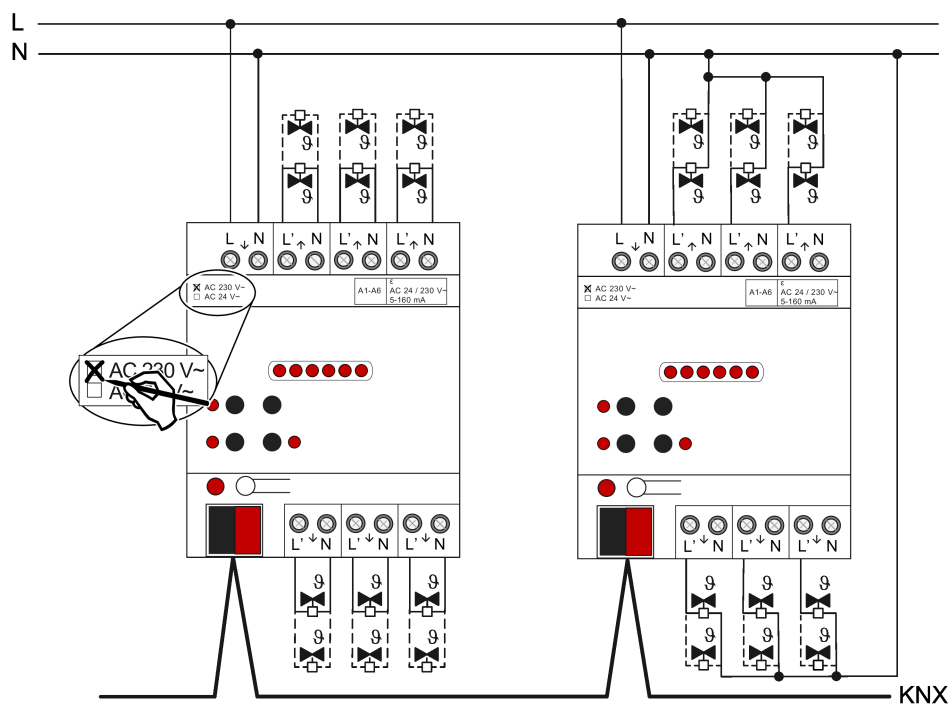

Figure 2: Connection for AC 230 V actuators (connection examples)
- Connect AC 230 V valve drives according to the connection diagram (see figure 2).